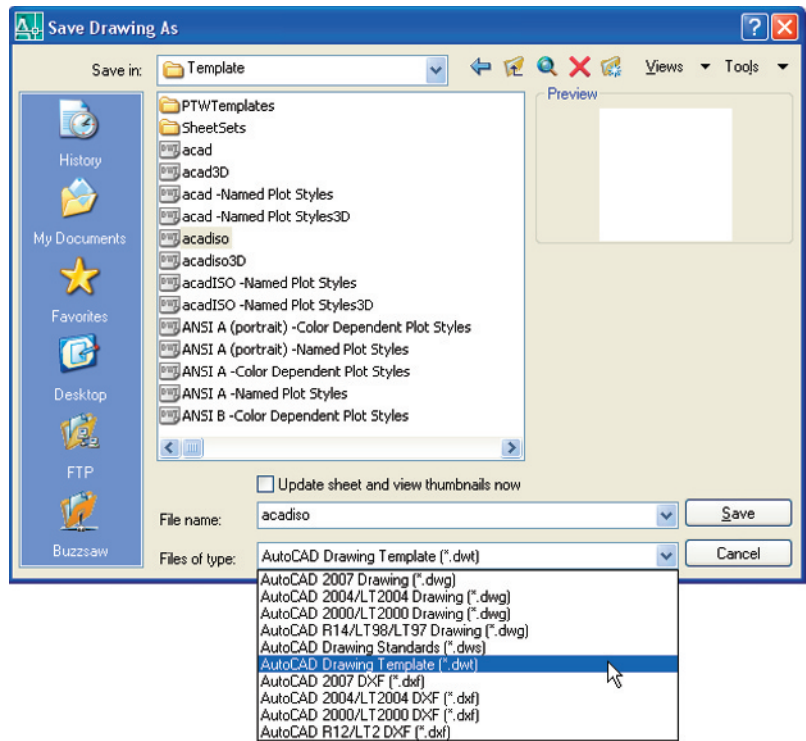

Fig. 4.21 Saving the template to the name **acadiso.dwt**
- In the **Save Drawing As** dialog which comes on screen (Fig. 4.21), *click* the arrow to the right of the **Files of type** field and in the popup